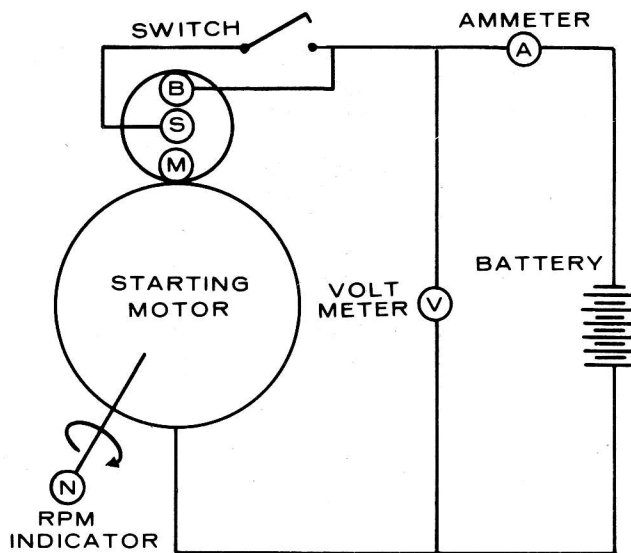

FIGURE 55. WIRING STARTER FOR NO LOAD TESTS
1. For no load test, the starting motor is wired as shown in Figure 55 and run. The value of the meter reading at this condition should be as follows: